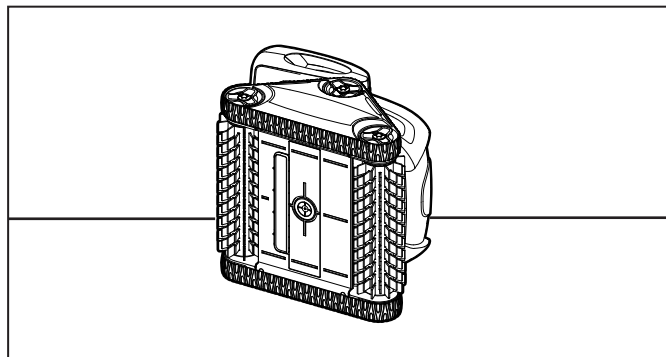

Figure 19. Stand Cleaner on its Side
- Stand the cleaner on its side (Figure 19).